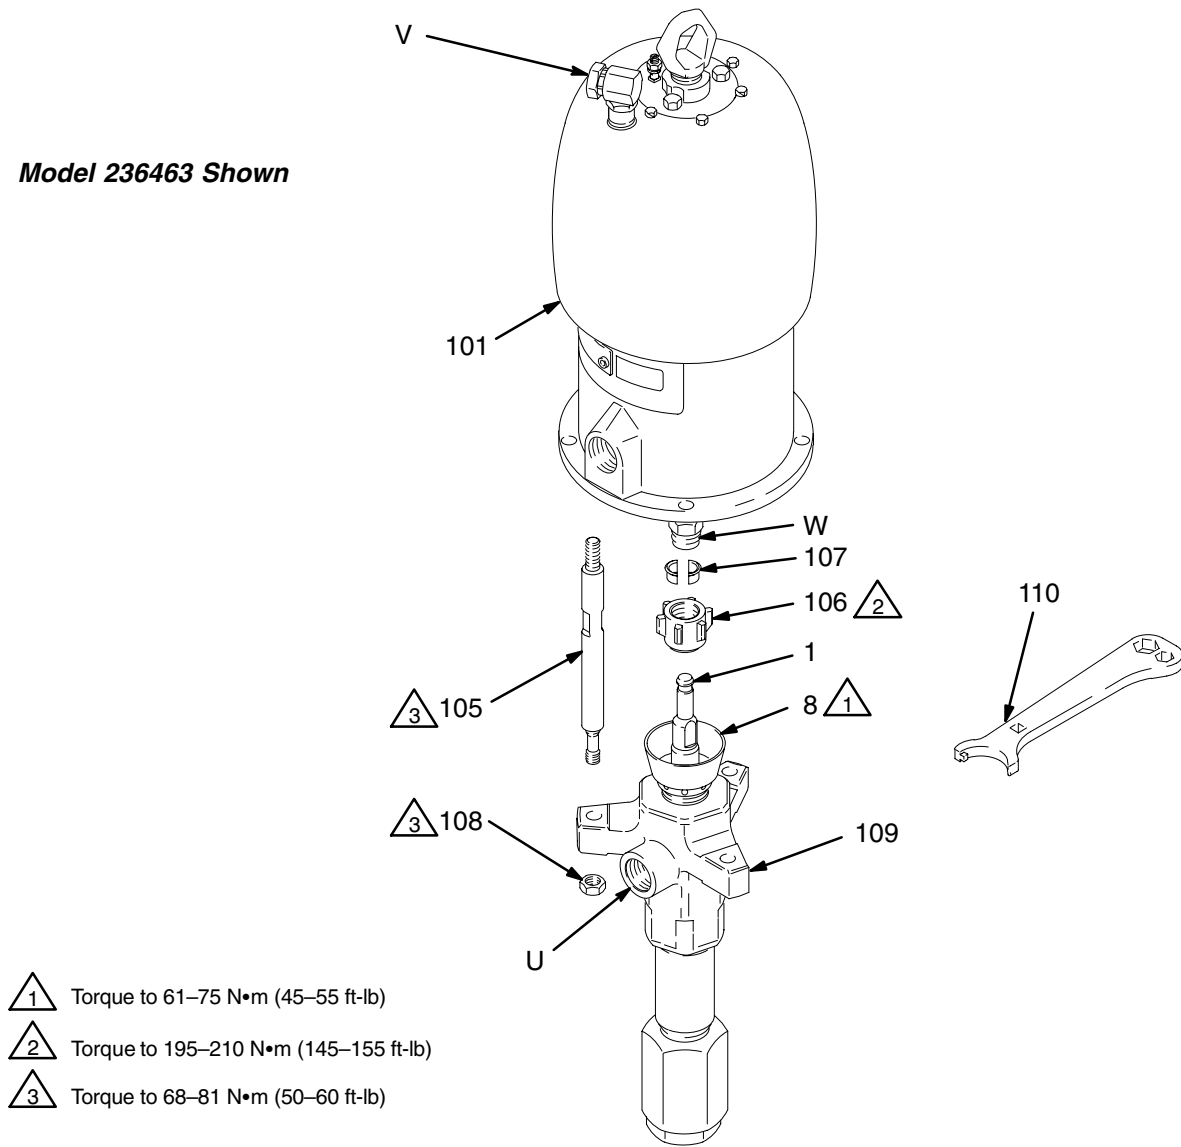

Fig. 4
5. Using an adjustable wrench (or hammer and punch), unscrew the coupling nut (106) from the motor shaft (W). Do not lose or drop the coupling collars (107). See Fig. 4.
1. Make sure the coupling nut (106) and the coupling collars (107) are in place on the displacement rod (1). See Fig. 4.
2. Have one person hold the displacement pump while another reconnects it to the motor (see the **CAUTION** at left). Orient the pump's fluid outlet (U) to the air inlet (V) as was noted in step 4 under **Disconnecting the Displacement Pump**. Position the displacement pump (109) on the tie rods (105).